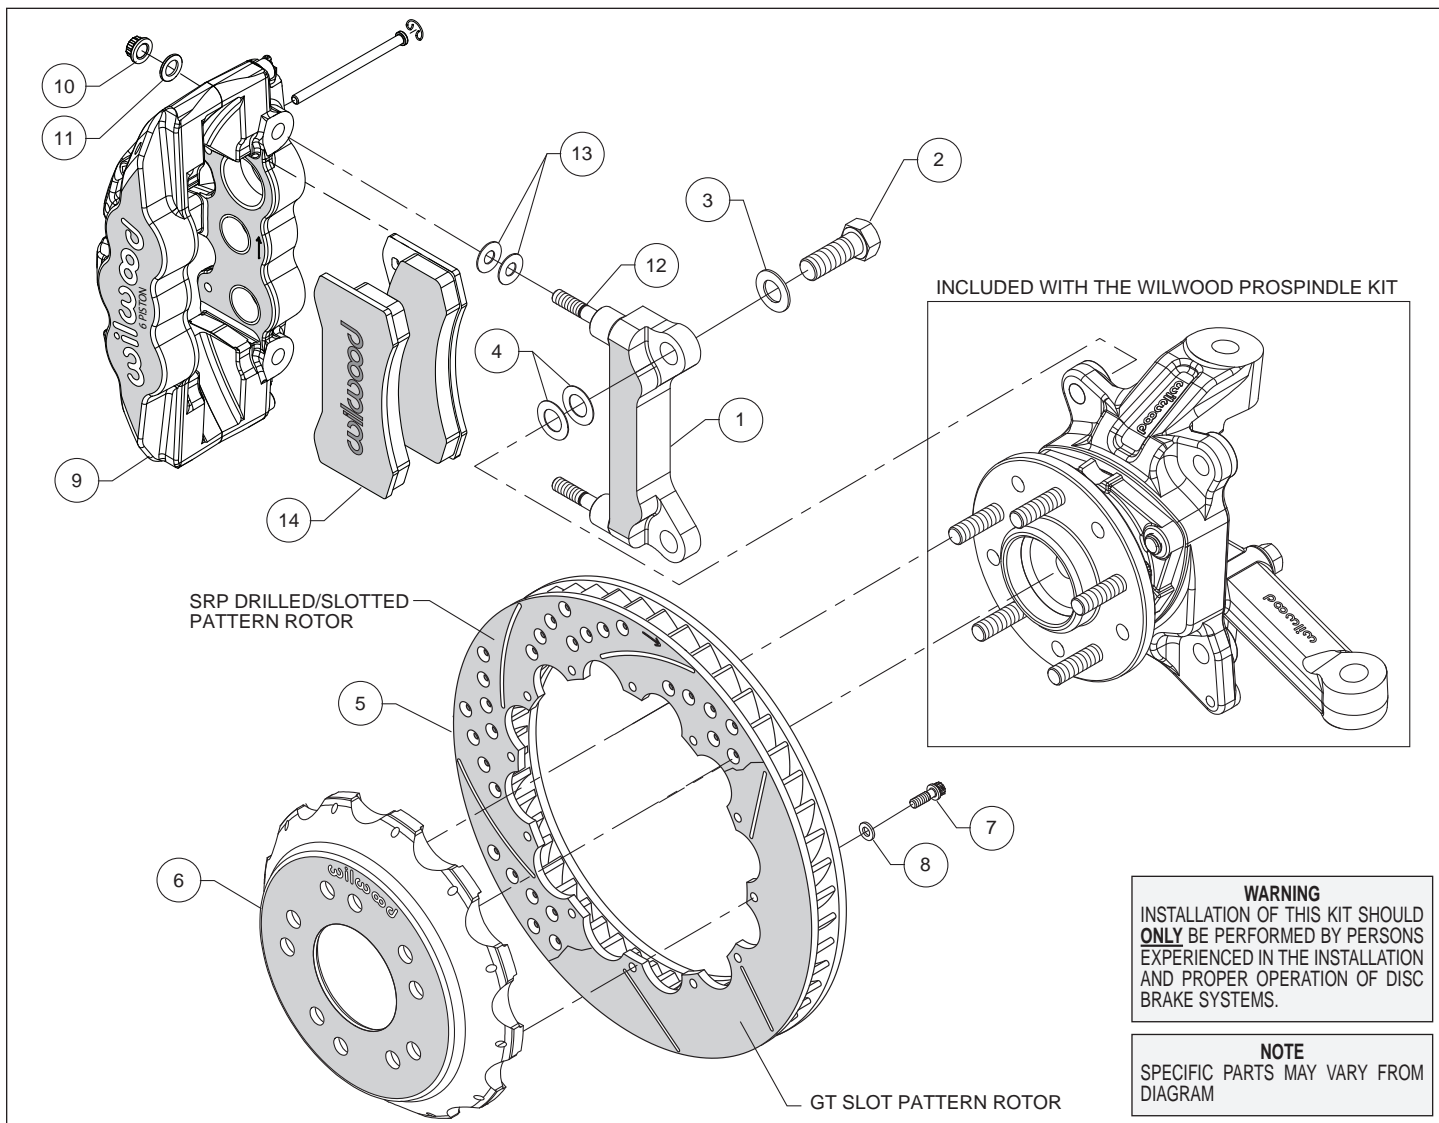
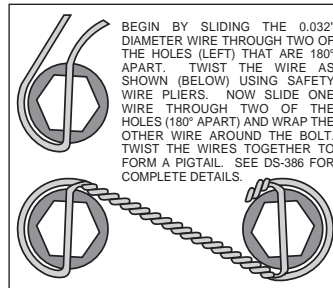

Figure 1. Typical Installation Configuration
Figure 3. Safety Wire Diagram
Assembly Instructions (numbers in parenthesis refer to the parts list and Figure 1 on the preceding pages):
- The caliper mount bracket (1) should initially be installed with clean, dry threads on the mounting bolts. Orient the bracket as shown in Figure 1 and Photo 1 and install using mount bolts (2) and washers (3). Initially place two .024" thick shims (4) on each bolt between the bracket and spindle, Figure 1. Temporarily tighten the mounting bolts. **NOTE:** The bracket must fit squarely against the mounting points on the spindle. Inspect for interference from casting irregularities, machining ridges, burrs, etc. Later, after the caliper alignment has been checked, the mount bolts will be secured using red Loctite® 271.
- Orient the rotor (5) and the hat (6) as shown in Figure 1 and Photo 2. Attach rotor to hat using bolts (7) and washers (8). Using an alternating sequence, apply red *Loctite*® 271 to the threads, and torque to 155 **in-lbs**. For an added measure of security, the bolts may be safety wired using standard 0.032 inch diameter stainless steel safety wire as shown in Figure 3.
- **NOTE:** *This kit contains distinct right and left hand calipers that must be mounted in a specific direction, as described below.* Lubricate the caliper mounting studs (12) with lightweight oil. Initially place two .030" thick shims (13) on each stud between the caliper and the bracket, as shown in Figure 1 and Photo 5. Mount the caliper (9) onto the bracket (1) using lock nuts (10) and washers (11), Figure 1. Ensure that the caliper is mounted so the largest pistons are at the rotor exit end of the caliper, in relation to the direction of rotor rotation. Temporarily tighten the lock nuts and view the rotor through the top opening of the caliper. The rotor should be centered in the caliper, Photo 6. If not, adjust by adding or subtracting shims (4) between the bracket and the spindle. Always use the same amount of shims on each of the two mounting bolts. Once the caliper alignment is correct, remove the bracket mounting bolts one at a time, apply red *Loctite*® 271 to the threads, and torque to 140 ft-lb.
- Remove the two pad retaining pins from the caliper (9) by carefully popping out the pin retaining clips and sliding out the pins. Insert the brake pads (14) into the caliper from the bottom, Figure 1, Photo 7. With the friction material facing the rotor, secure the brake pads in place with the pad retaining pins and clips, Photo 8. Reinstall the caliper onto the caliper mounting bracket and temporarily tighten the lock nuts. Check that the top of the brake pad is flush with the outside diameter of the rotor, Photo 9. If not, adjust by adding or subtracting shims (13) between the caliper and the bracket. After the caliper pad height is set, torque the caliper lock nuts (10) to 47 ft-lb.